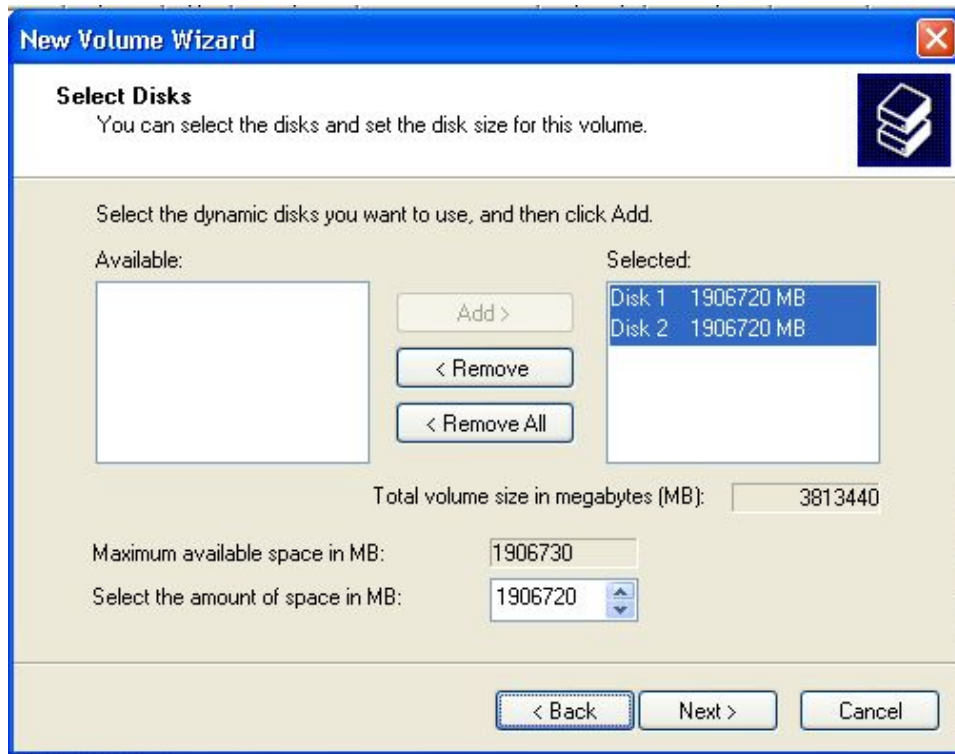

FIGURE 6-29. New Volume Wizard - Select Disks Screen, With “Disk 2” Moved to “Selected:”.
2. The *New Volume Wizard - Select Disks* screen appears. Highlight “Disk 2” in the “Available:” field. Click **ADD >** to move “Disk 2” to the “Selected:” field. See Figure 6-29.
3. At the bottom of the screen, at “Select the amount of space in MB:” select a number that is at least 10MB less than the maximum available space of the disk. Click **NEXT >**. See Figure 6-29.